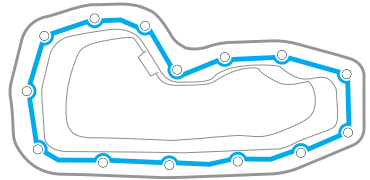

Fig 1
- Step 6. Place a bead of RTV sealant around the mating surface of the new oil pan, making sure to place the bead to the inside of the bolt holes (Fig 1).